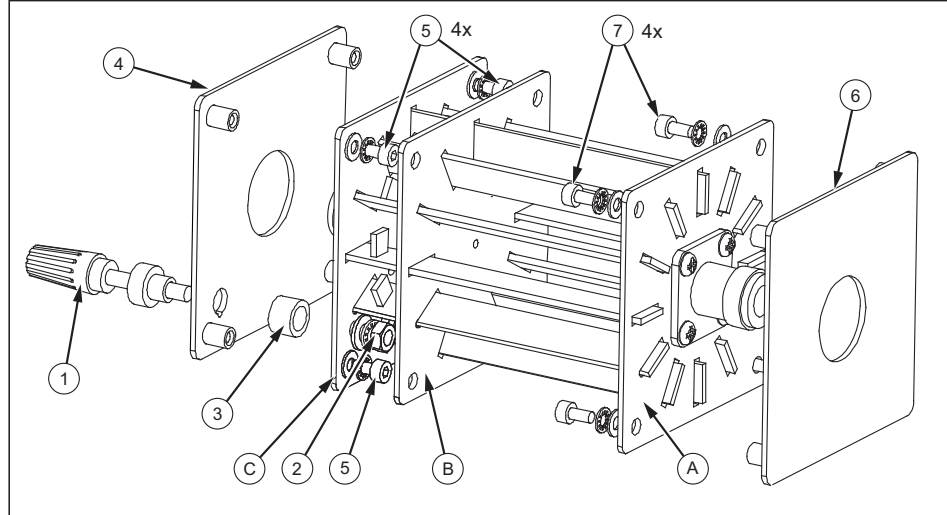

Figure 11. Exploded View of a Shunt
Use the following procedure to replace the binding post and the Aluminum end plates; see Figure 11.
1. Remove the input end plate (Figure 11- ⑥).
2. Remove the 3 mm screws, nuts and washers shown in Figure 11.
1. Remove the output end plate (Figure 11- ④).